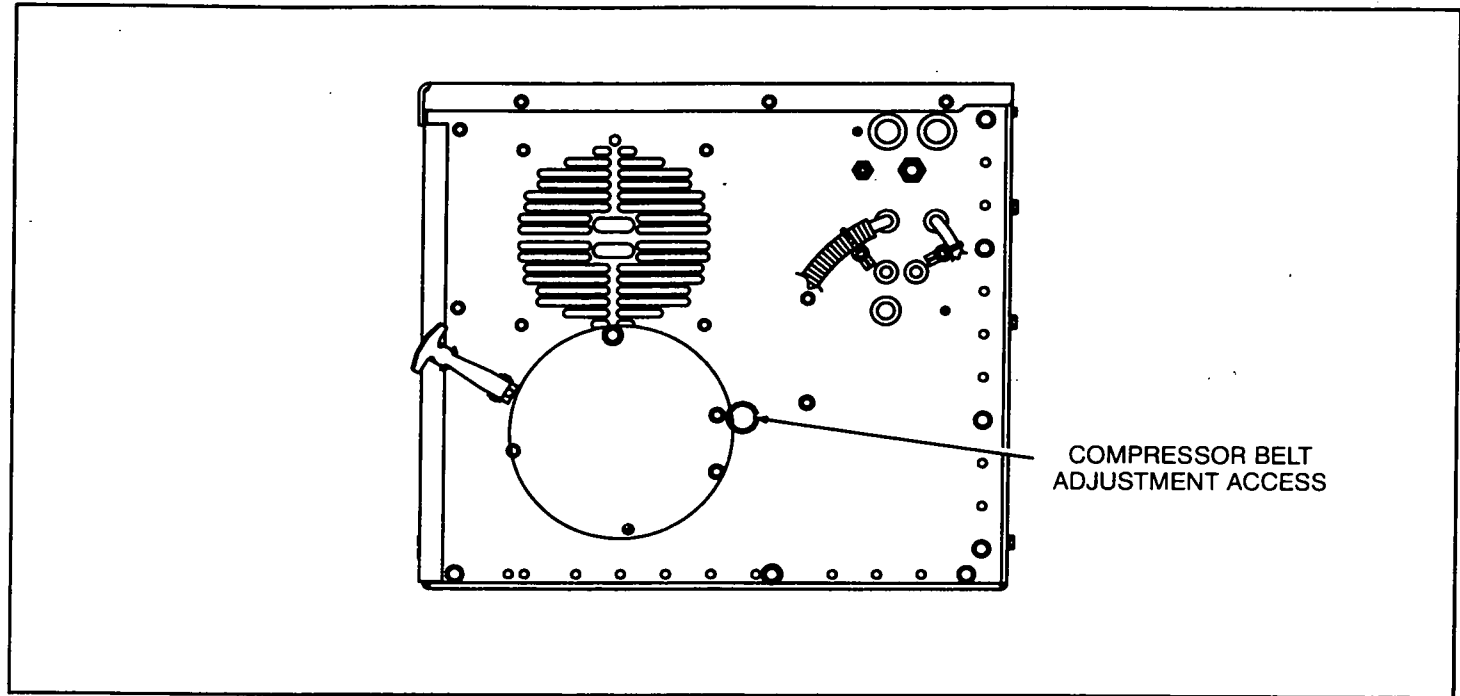

FIGURE 11. COMPRESSOR BELT ADJUSTMENT – ACCESS LOCATION
1. Remove the hole plug from the air inlet side of the power unit (Figure 11).